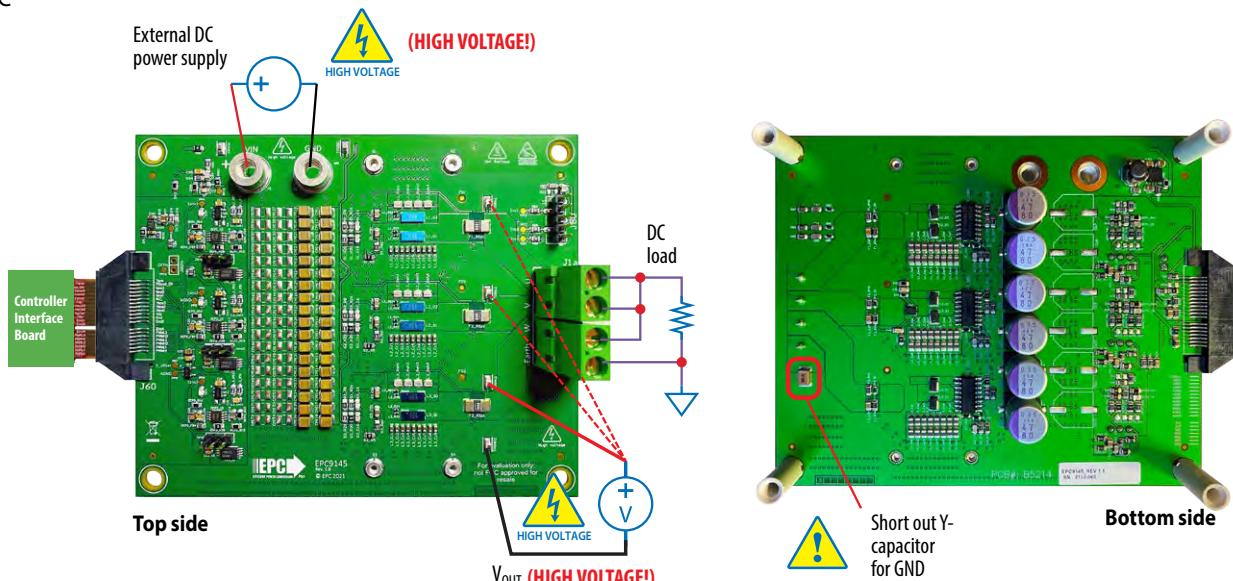

Figure 6: Connection diagram of the EPC9145 configured as a multi-phase converter
The EPC9145 can also be configured as multi-phase synchronous buck converter with either 2 or 3 phase options. When configured as a 2-phase converter, the user can choose any combination of output but should make use of the applicable on-board inductor pad allocations, with appropriate value for the inductor at the chosen operating frequency. **In this configuration it is important to removed the Y-capacitor (CY) and short out the pads with a conductor that can carry the full rated load current.** The earth connection then becomes the ground (GNDP) return as shown in Figure 6. The output voltage can be measured using any of the phase voltage test points with respect to the ground (GNDP).